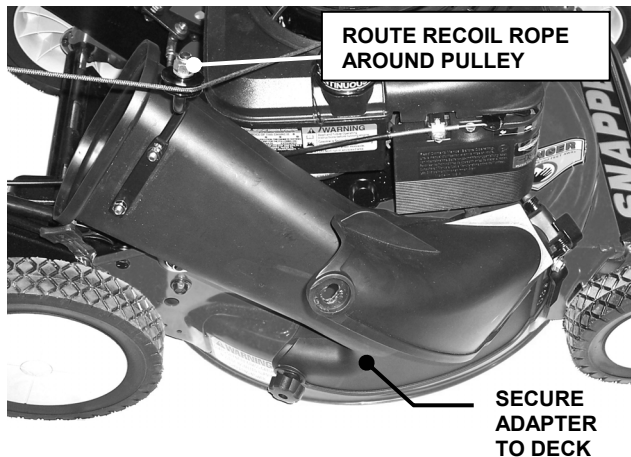

FIGURE 2.12
STEP 2: Install grass bag adapter to deck in place of raised recycling cover, making sure that: 1) outside front edge of adapter slips behind recycling cover hinge bracket, 2) slot on inside front of adapter slips under restraining nut on top of deck (under right front corner of engine), and 3) slot on bottom rear of adapter slips onto stud behind rear of discharge opening, where rear of recycling cover was originally secured. See Figure 2.12. Install internal/external tooth lock washer and knob nut onto stud and tighten securely. Release recycling cover and allow it to rest against adapter.
STEP 3: Route recoil rope around outside of rope guide pulley. See Figure 2.12. (NOTE: Recoil rope may need to be slackened. Refer to "Starting & Operation".)